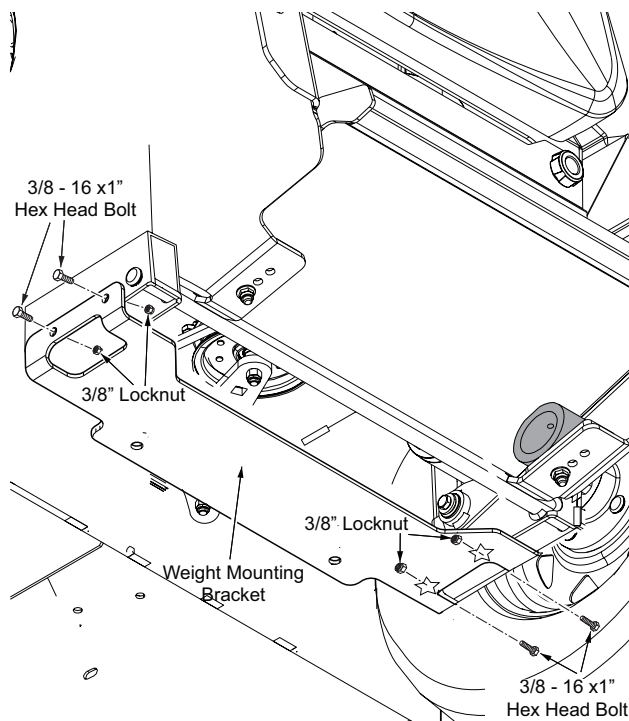

Figure 3.
8. Install the four 3/8 - 16 x 1" hex head bolts included in the kit through the weight mounting bracket and then through the side plates on the right and left side. See Figure 3. Install and tighten the four 3/8" locknuts included in the kit.